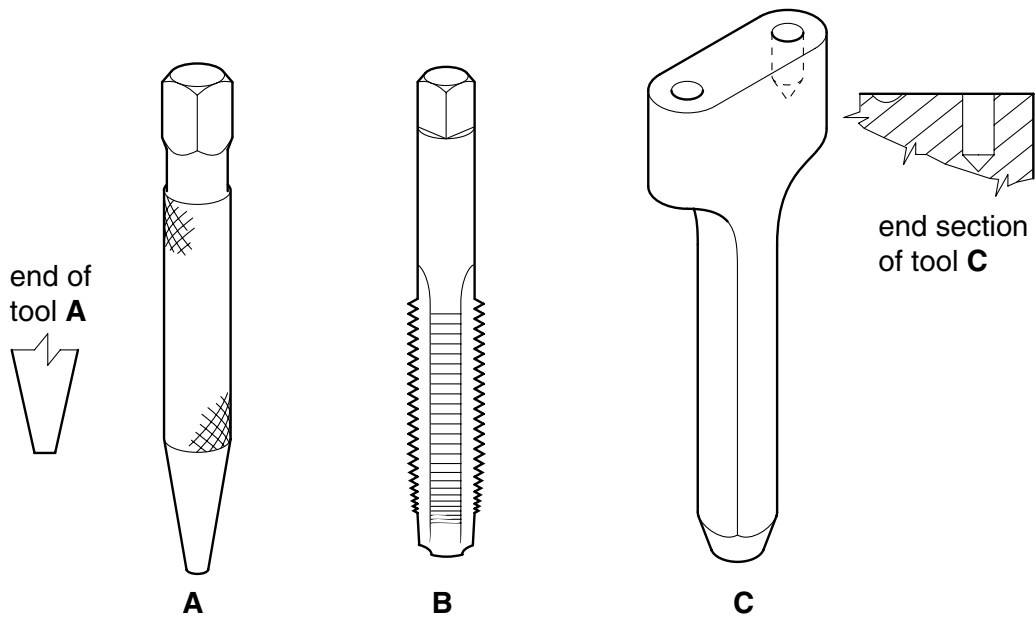

Fig. 4
12 Fig. 4 shows sketches of three tools used in the workshop.
- (a) Identify each tool shown in Fig. 4 and state its purpose. [6]
- (c) For **one** of the tools shown in Fig. 4, sketch another tool that would be used with it **and** explain how they work together. [5]